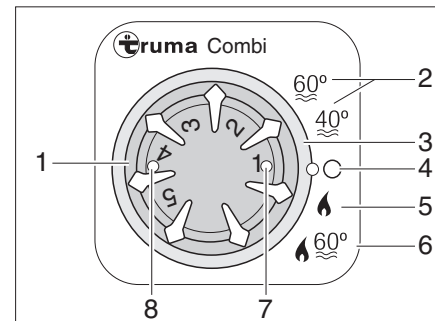

Fig. 108 Operating unit for heater/boiler
- ▶ Set the operating mode using the rotary switch (Fig. 108,3).
In the "Heater and boiler" operating mode (Fig. 108,6) the water in the boiler is also heated. The heater can be operated with an empty boiler in the "Heater without boiler" operating mode (Fig. 108,5).
- ▶ Set the temperature control knob (Fig. 108,1) at the operating unit to the desired heating level.
- ▶ Set the rotary switch (Fig. 108,3) to winter operation "Heater without boiler" (Fig. 108,5) or to winter operation "Heater and boiler" (Fig. 108,6).
Green indicator lamp (Fig. 108,7) lights up. The circulation fan automatically switches on when the heater is activated.
- ▶ Set the rotary switch (Fig. 108,3) to "O" (Fig. 108,4).